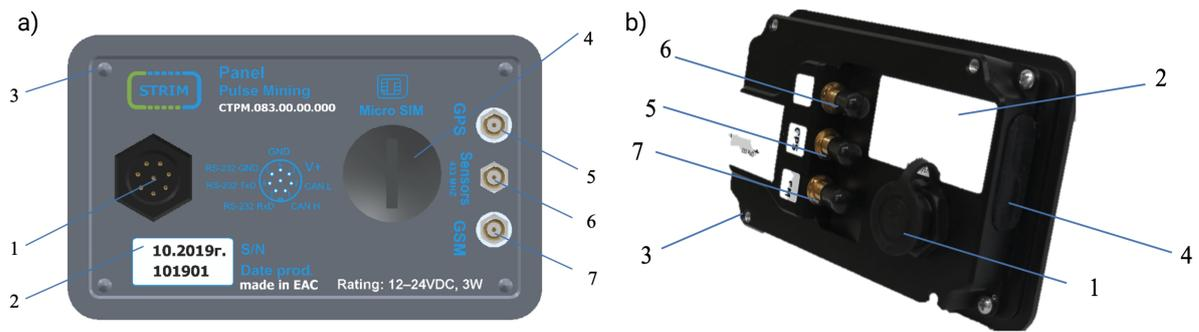

Figure 2: Back side of the panel
Notes: 1. The SIM card slot plug (pos. 4 in Fig. 2) must be closed, and the mating part of the connector (pos. 1 in Fig. 2) must be properly connected.
Back side of the panel is available in two versions which are presented in figures 2, a and b. Table 5 shows the purpose of connectors and components on the back side.
Please note that the power connection to the panel must be performed by qualified personnel. The power connection to the panel is made with the help of cable harness STRM.083.88.00.000, which is included in the package. The harness is connected to connector 1 (Figure 2) on the back side of
GSM antenna. The appearance of the antenna is shown in Fig.9. The antenna is installed on the windshield of the vehicle. For this purpose there is a special sticky strip on it. The GSM antenna must be connected to the GSM socket according to fig.2, pos. 7. Correctness of the antenna installation is determined by the signal strength level (see section 1.14.1) in the area of good GSM signal.
be connected to the GPS socket according to Fig.2, pos. 5. Correctness of installation is determined by the number of satellites discovered. The minimum number of satellites is at least 4 (see section 1.14.5).